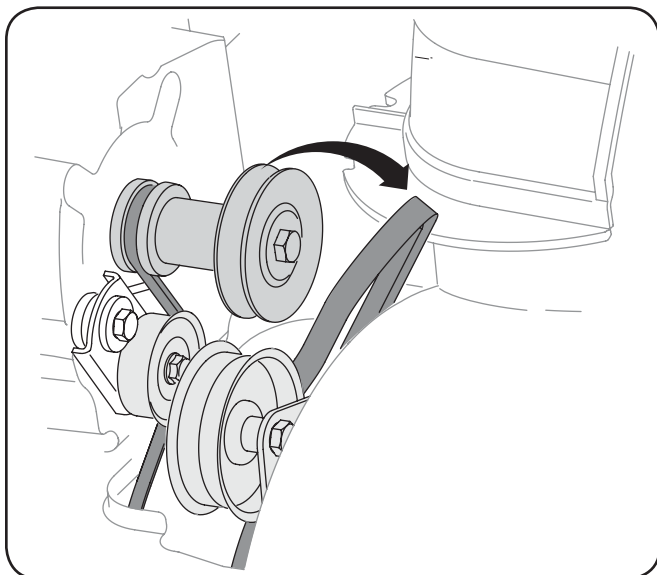

Figure 7-2
3. Roll the auger belt off the engine pulley. See Fig. 7-2.